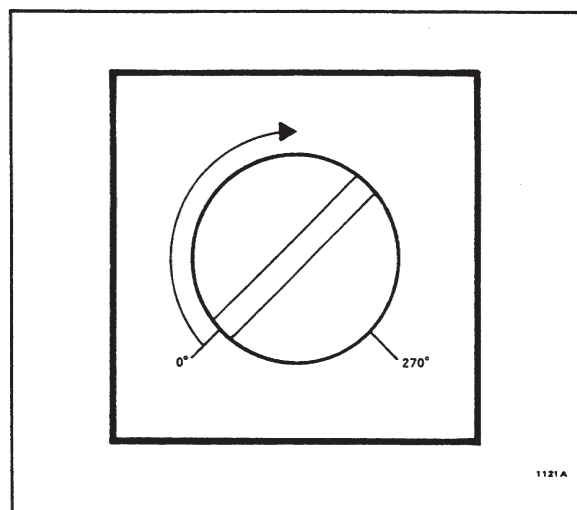

FIGURE 8. Adjustment range of the P, I, D and M setpoint potentiometers.
4. Set the P potentiometer 90° clockwise from minimum; set I mid-position. Set D to its mid-point, as indicated in Figure 8. On the feedforward circuit board, set gain and zero potentiometers to their midpoint.